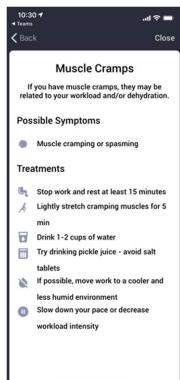

Figure 21
4. Based on the Symptom Checker responses, Kenzen will display possible non-medical treatments (Figure 21).